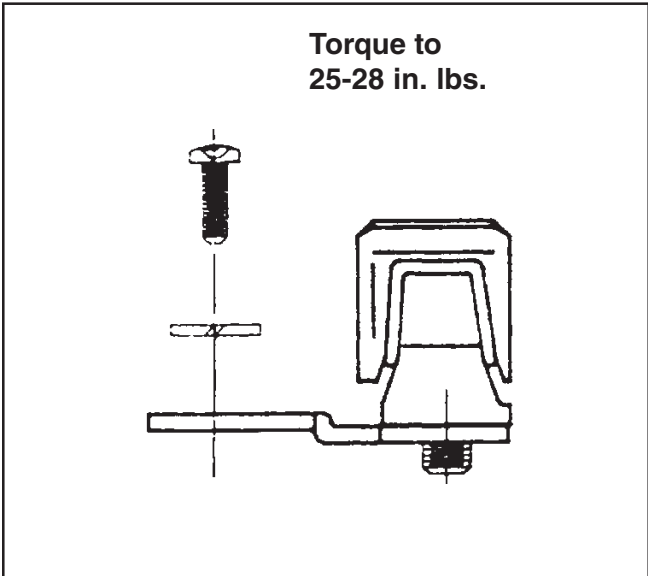
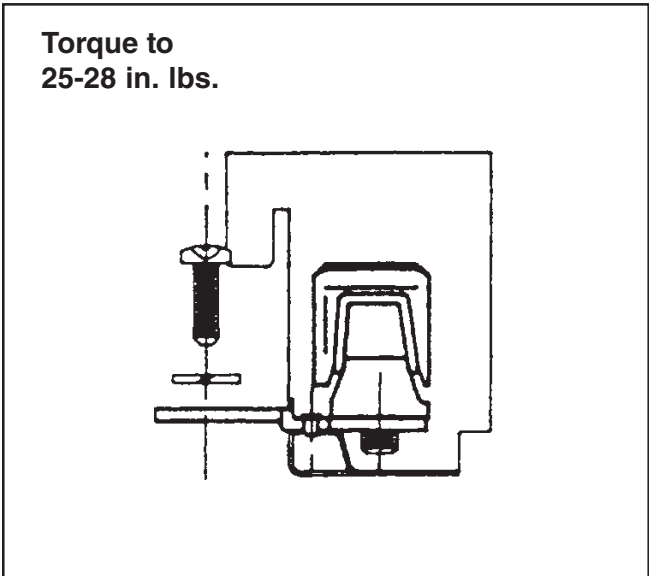

Fig. 5
Fig. 6
12. For Cat. No. FCK203 & FCRK203 use Fig. 5, install fuse clip & strap on disconnect device.
13. For Cat. No. FCJK603 & FCJK606, refer to Fig. 5 & 6. Note Fig. 6 must be installed in center pole.